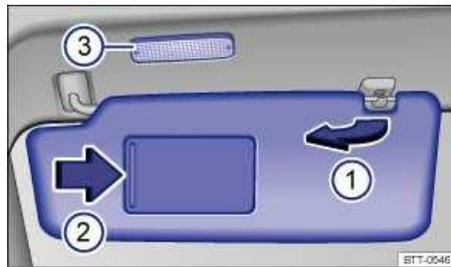

Fig. 88 In the headliner: Sun visor.
- Lift it out of the retaining clip ⇒ fig. 88 \(1\) and swivel it over toward the door.